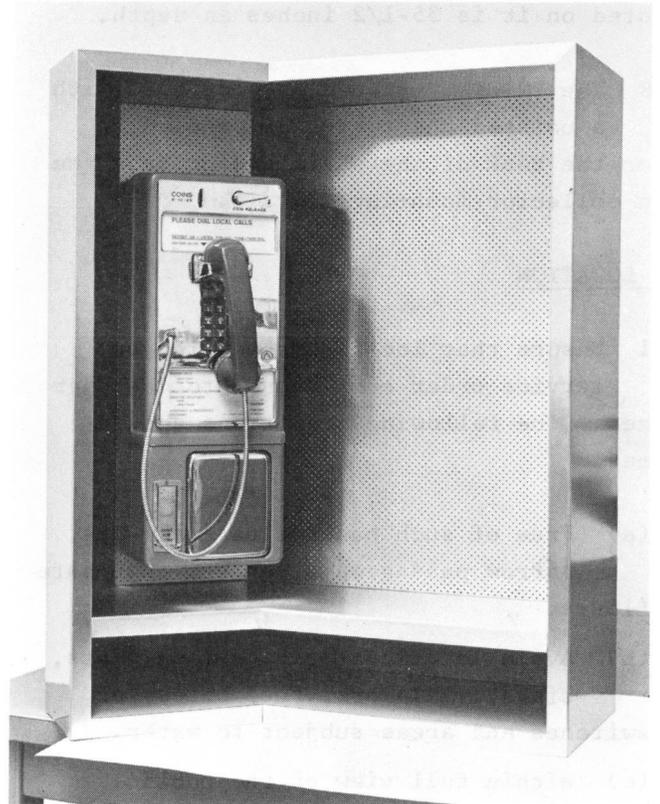

Fig. 1
2.03 The ADCO 20-S shelf provides for mounting a coin telephone in the enclosed wing on the left side. (See Fig. 1)